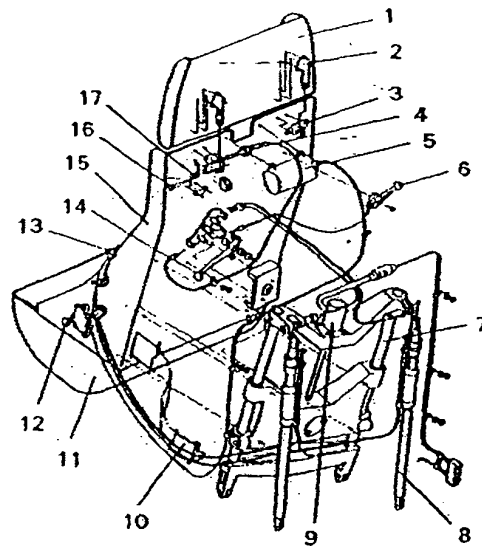

Figure 2-8 Pilot Seat
The pilot's seat (Figure 2-8) consists of an armored seat bucket (11), backrest (15), and headrest (1). The seat is designed to use a parachute as a cushion in flight. There is ring on the front of the seat for fastening the parachute cord. A cushion may be placed in the seat pack in lieu of a parachute. The seat has no horizontal adjustment. It is rigidly secured to the floor brackets.
A. Vertical Adjustment. The seat adjustment actuator (9) allows the pilot to adjust the height of the seat. The adjustment range is 160 mm (6.24 in). The actuator receives 27 VDC power from Rectifier Bus II via the PILOT SEAT ADJ circuit breaker on the right cb panel. The vertical adjustment switch is located to the right of the seat bucket. If the range of vertical movement is not sufficient to provide correct posture for the pilot, an insert can be placed in the seat bucket to provide additional height.
B. Seat Tilt Adjustment. The seat is normally reclined at an angle of 26° relative to the vertical. It may also be adjusted to angles of 21° or 16°. The seat tilt adjustment handle (13) is located on the left side of the seat.
C. Seat Belt. The seat has shoulder straps and a lap belt (10) with quick release pressure locks. The shoulder strap adjustment mechanism (5) attaches to the back of the seat. The shoulder strap adjustment handle (12) is located to the left of the seat back.
D. Seat Back and Headrest Release. In an emergency situation, the pilot can exit through the cargo compartment. The seat back and headrest can be dropped by turning the emergency release handle (14) downward. If needed, the headrest can be dropped back separately by pulling down on release handle (6).